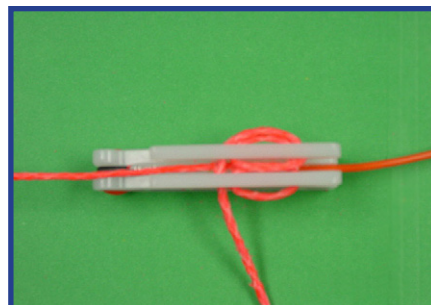

Figure 44 - Step 4, cord around both cleats and secured.
4. To complete the connection, wrap the PRIMACORD 2 around both cleats and secure it in the locking device at the end of both cleats (Figure 44); the finished connection should resemble a Figure 8.